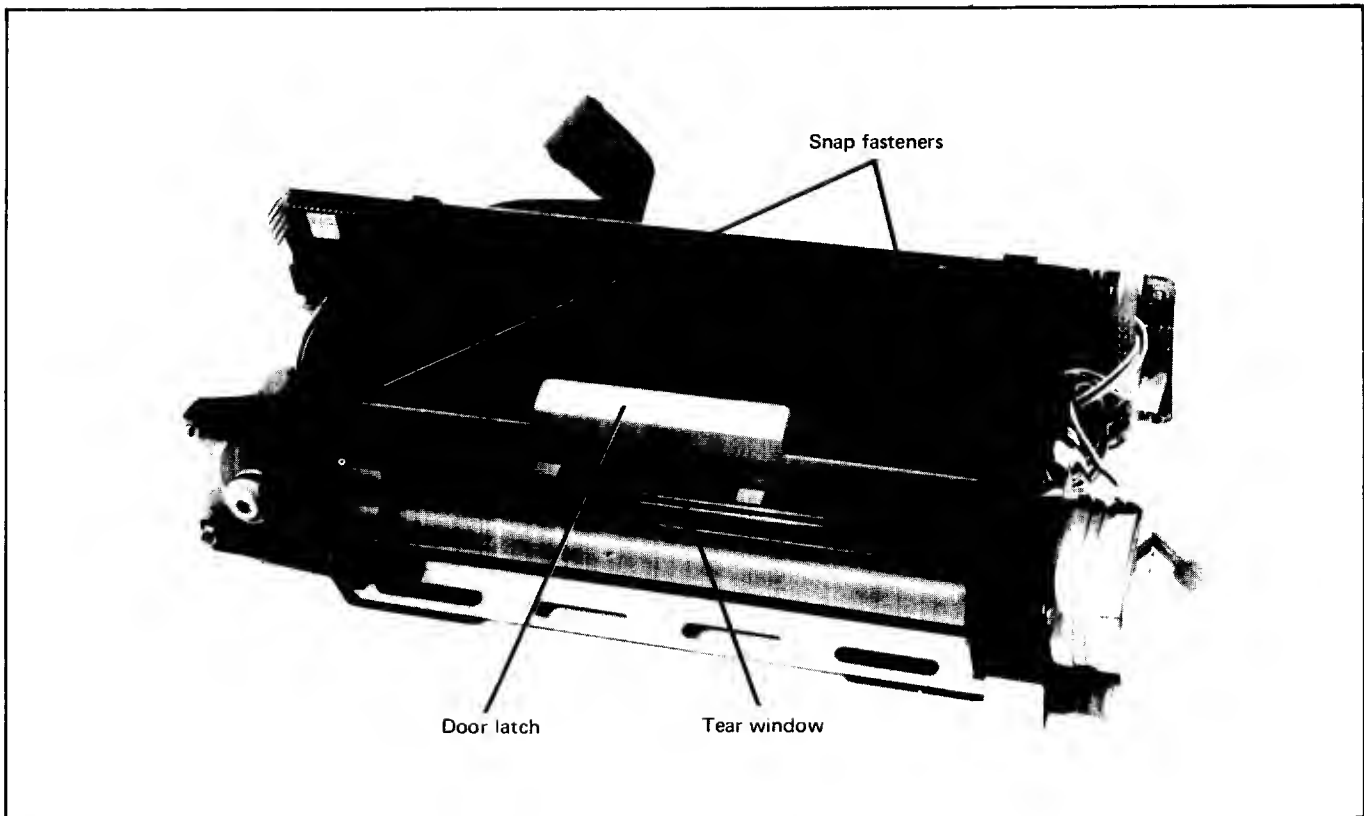

Figure 7-11 TPM Removal
2. Use an IC removal tool and unsnap the two snap fasteners securing TPM to mainframe (see figure 7-11)
3. Use an IC removal tool and unsnap the two snap fasteners securing TPM to mainframe (see figure 7-11).